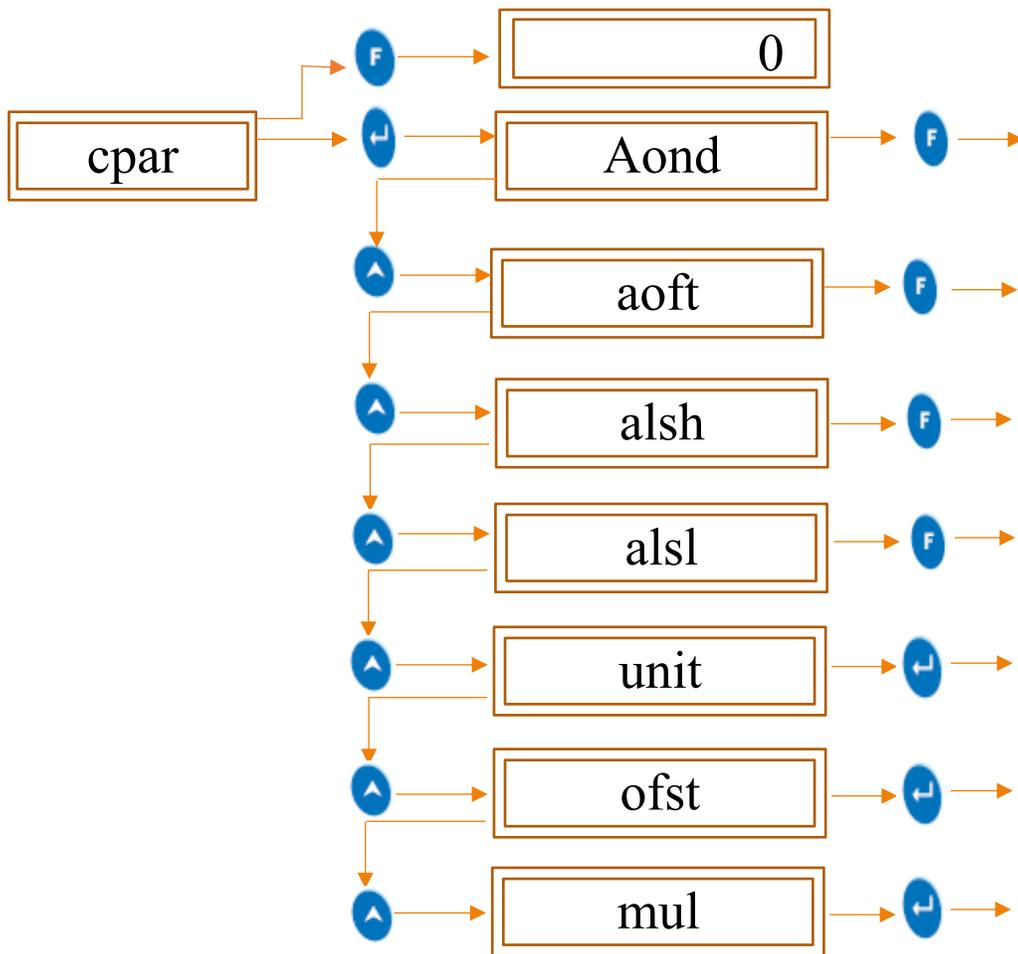

Figure 11 Configurable parameters
- To set parameters, follow the procedure shown in figure 11, by pressing appropriate key of device user can configure the parameters. The parameters are discussed subsequently in detail.